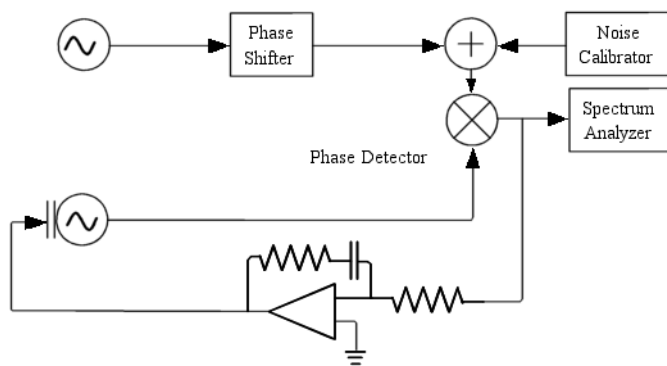

Figure B-1: Analog source phase noise measurements require both calibration and a phase-lock loop.
Traditionally, phase noise measurements are made by analog techniques. A transducer is used to convert the phase fluctuations to a voltage that is sampled and Fourier analyzed. The transducer is almost always a double-balanced mixer that, along with the following low noise amplifiers, must be calibrated at all Fourier frequencies of interest. The double balanced mixer operates as a phase detector only when the signals at the local oscillator (LO) and signal ports are approximately in phase quadrature. Thus analog phase noise measurements of two sources require that the unit under test be phase locked to the reference. Using digital techniques, it is possible to eliminate both of these restrictions making it much simpler to make high quality phase noise measurements. Figure B-1 shows the analog approach to source phase noise measurements.